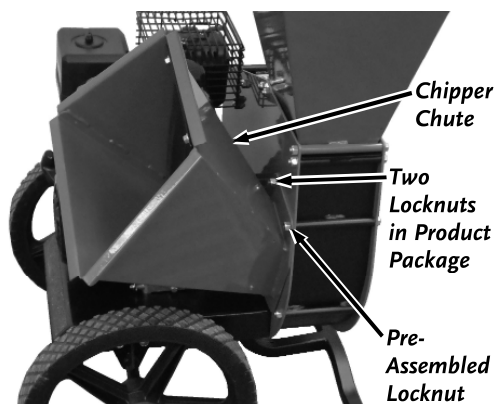

Figure 4a
1. Remove the Pre-assembled Locknut from the Bolt using two 1/2" Wrenches (**Figure 4a**). Leave the Bolt in place.